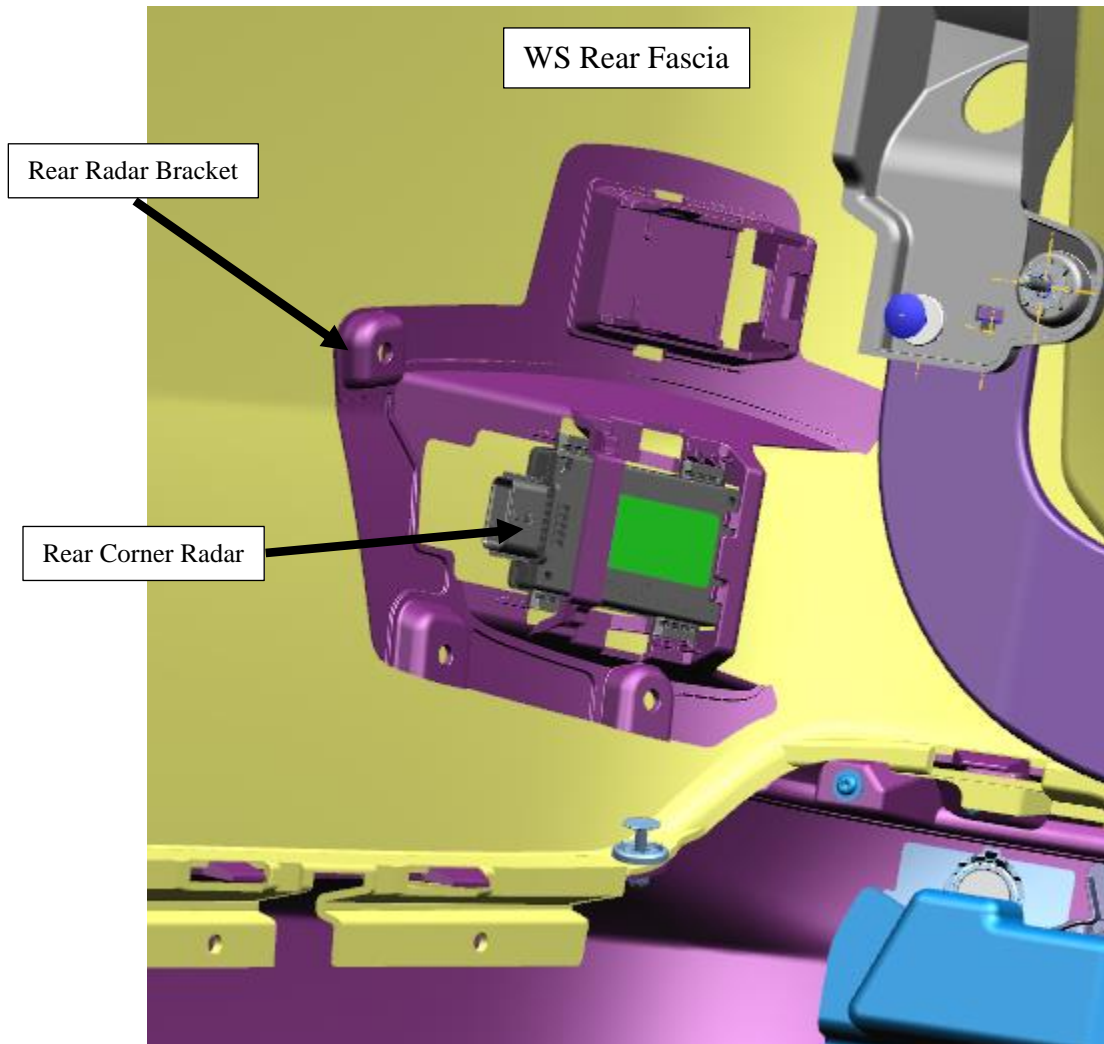

Fig 3
1. The radar may be improperly attached to its bracket (Figures 3 & 5).